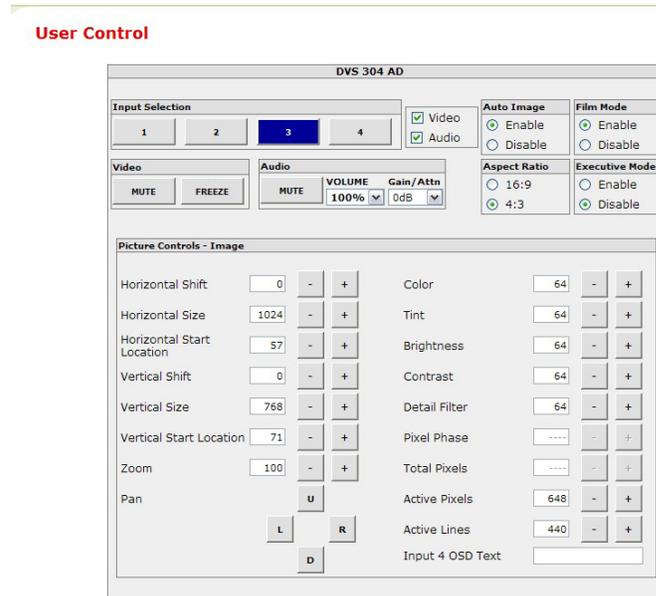

Figure 4-8 — User Control page
The User Control page (figure 4-8) simulates elements of the DVS 304 front panel, but also includes other features such as picture control, mute and freeze options, auto image, film mode, aspect ratio and front panel lockout (executive mode).
1. Click the User Control link on the left side of the page. The User Control page appears (figure 4-8).
3. Click the User Control link on the left side of the page. The User Control page appears (figure 4-8).